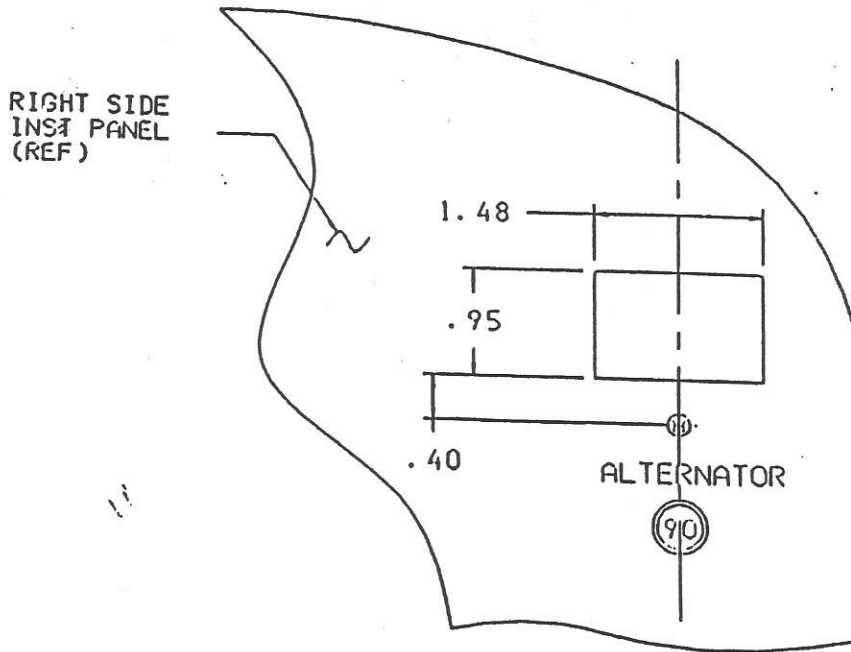
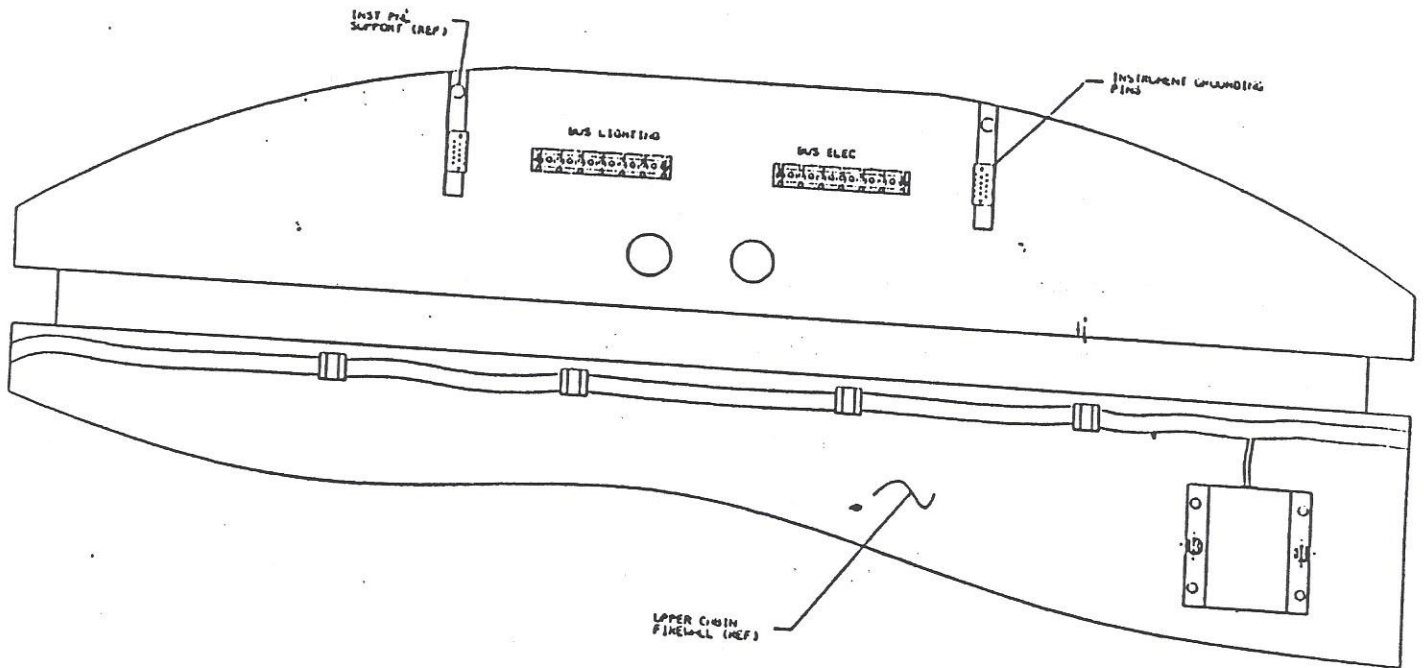

Figure 1. Hour Meter Cut-out.
Figure 2. Instrument Grounding Pin.
- I. Cut out hole in instrument panel as shown in figure 1.
- II. Locate (2) 5/32 Dia holes using hour meter as a guide and mount with screws and nuts provided.
- III. Insert socket of EE39A20N into any vacant receptacle of instrument grounding pin. ( Location: upper cabin firewall under instrument panel support rods, figure 2).